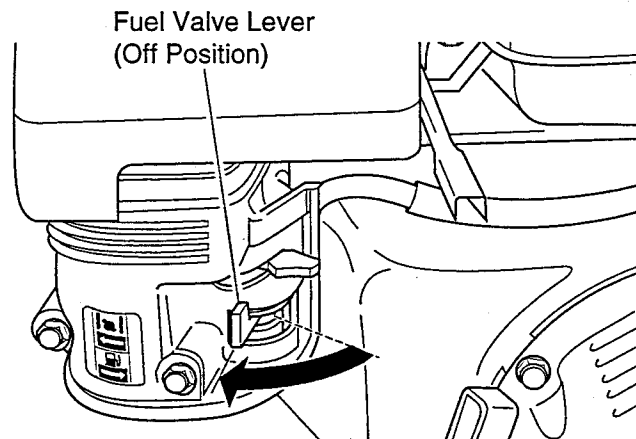

Figure 20 - Fuel Valve Lever Off
4. Turn fuel valve lever off. Do this by moving valve lever fully to the left (see Figure 20).